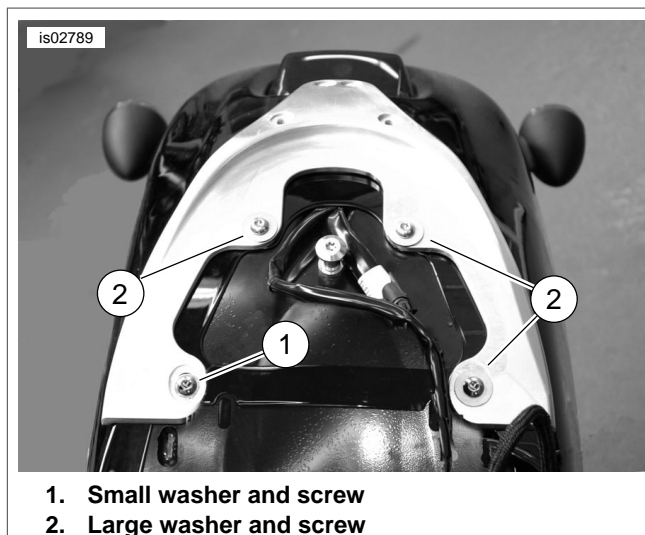

Figure 6. Install Baseplate Mounting Hardware
10. See Figure 6. Carefully align the baseplate (with gasket) over the screw holes in the top of the fender. Obtain the four large button head screws and small flat washer from kit. Also obtain the large flat washers saved in Step 4.
11. Install the one screw (1) with small washer through the baseplate at the recessed slot, gasket and into the fender and finger tighten.
12. Install three screws (2) with large washers through the baseplate, gasket and into the fender. Finger tighten.